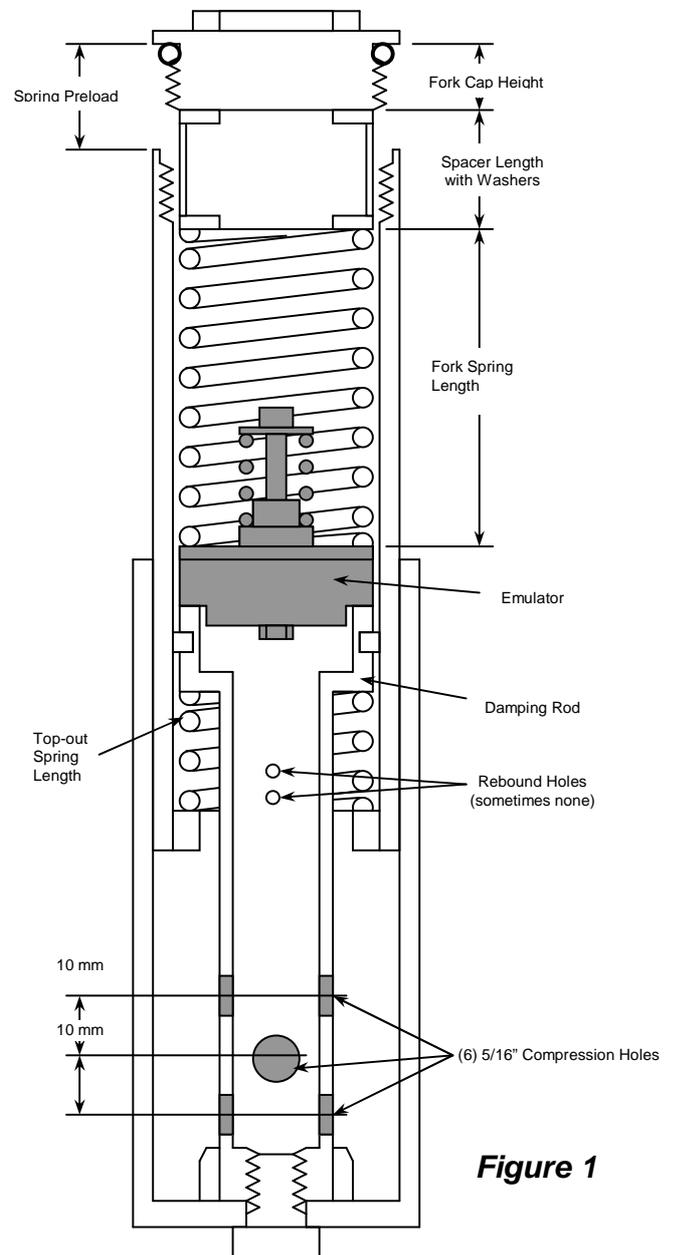

Figure 1
- 2 FITMENT: Before installation, check the fit of the Gold Valve Emulator** by placing it on the top of the damping rod and must completely cover the end of the rod (Fig 1). The Emulator must also fit into the fork tube itself. Also, the inner diameter of the **fork spring** must be at least 4mm (.160") larger than the Emulator Plate itself (small OD plate with the bleed hole) for proper flow.
- 3 Drill additional compression holes in the damping rod.** No matter how many compression holes come stock, you must end up with at least six 5/16 inch (8 mm) holes (3 sets of 2 holes). The exact size of the holes is not critical. It is only important to have **enough** flow, more than enough does not hurt. Drill the existing holes larger and, when necessary, add additional holes. If you are drilling new holes, space them axially (lengthwise) at 10 mm (7/16") increments. Each set of two holes must be perpendicular to the last set so as not to weaken the rod (Fig 1). After drilling, chamfer and deburr the **compression** holes, inside and out. **Do not add or enlarge the rebound holes and leave their edges sharp if any exist.**